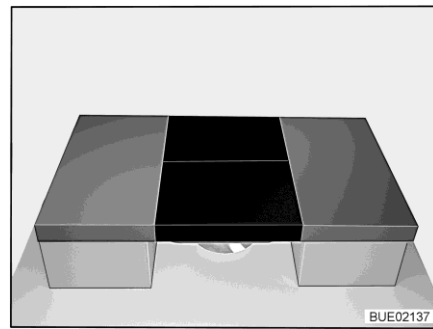

Fig. 157 After conversion
- Place two additional cushions on the table (see Fig. 157).